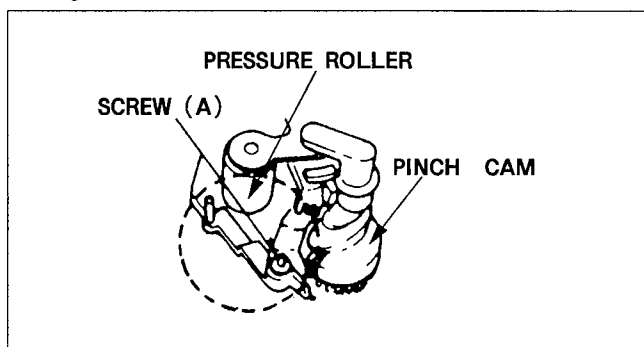

Figure M17
4. Remove the pinch cam (Ref. to Replacement of the mode switch) and P5 pull out sector gear as shown in Figure M17.